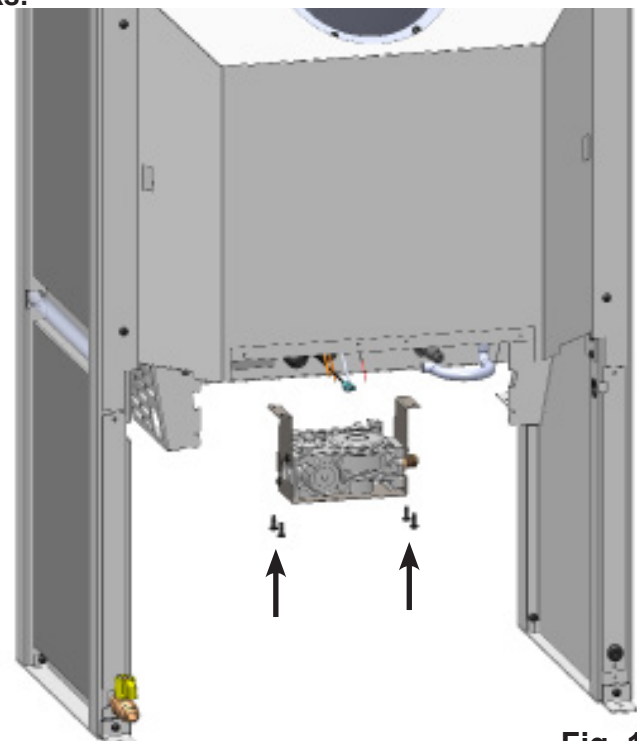

Fig. 18
6. Remove the four screws holding the valve bracket to the firebox bottom then remove valve (Fig. 18).